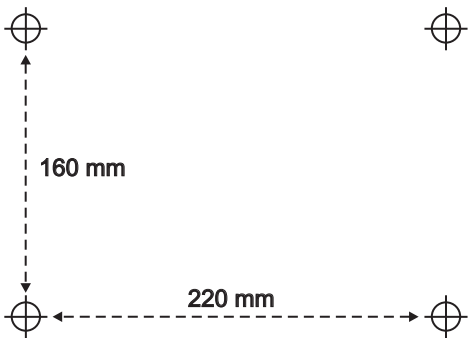

Figure 288: Drilling Details
2. If a mounting plate is available, drill the holes for the Fixing Centres using the dimensions stated in Figure 288.